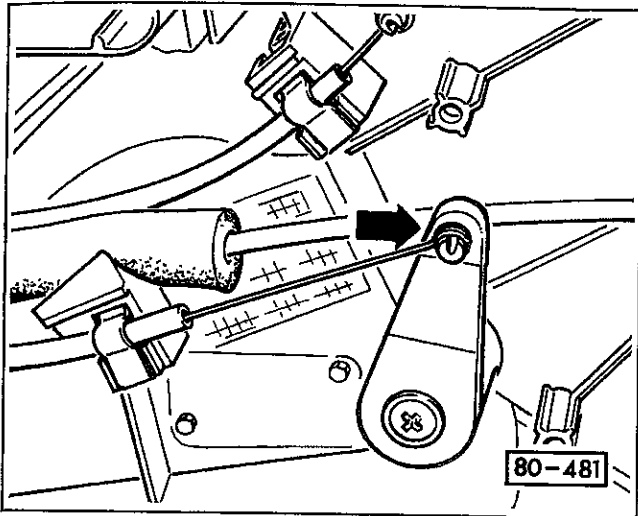

Fig. 7. Push temperature lever against stop (direction of arrow), then install cable retaining clip.
4. Push lever to stop. See Fig. 7.